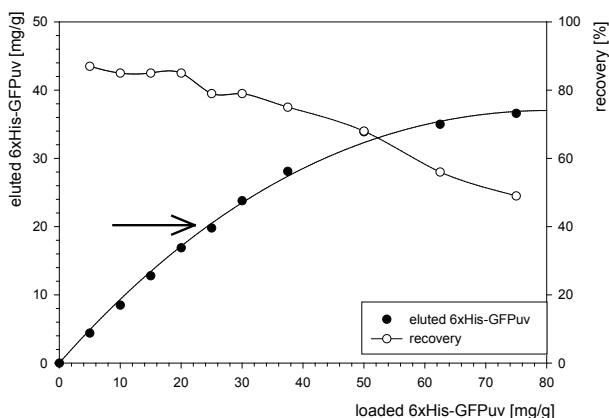
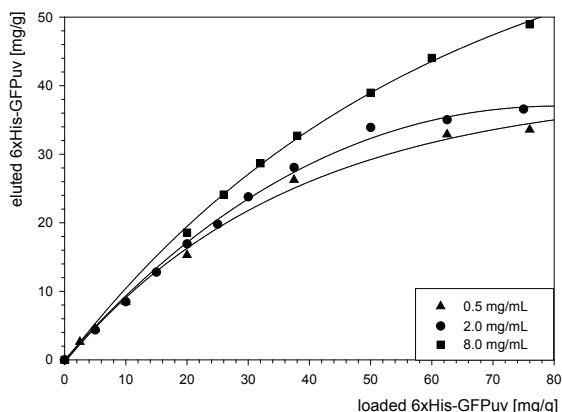

Figure 2: Binding behaviour of 6xHis-GFPuv to Protino® Ni-IDA Resin
Figure 3: Binding behaviour of 6 x His-GFPuv to Protino® Ni-IDA at different concentrations of the polyhistidine-tagged protein in the sample
The binding behaviour of any polyhistidine-tagged protein to Protino® Ni-IDA can be examined by calculating the amount of protein that is eluted as a function of the amount of protein that has been loaded (see Figure 2). Please note that the resulting graph will vary in dependence on characteristics and concentration of the individual His-tag protein. The binding curve can be divided in three stages:
1. Stage of maximum recovery. At this stage the loaded protein is bound to the resin nearly quantitatively and can be eluted nearly quantitatively, too (the binding curve is almost linear, see Figure 2, • eluted His-GFPuv).
Figure 2 shows a plot of the amount of eluted 6xHis-GFPuv against the amount of loaded 6xHis-GFPuv. The binding curve can be divided in three stages:
Under the above mentioned conditions the binding capacity of Protino® Ni-IDA for 6xHis-GFPuv is approximately 20 mg protein per g of resin (see arrow, Figure 2). At this point the protein recovery is > 80%. Consequently the following amounts of 6xHis-GFPuv have to be loaded: For optimal recovery: load ~ 20 mg protein per 1 g of Protino® Ni-IDA Resin, for maximum yield: load ~ 75 mg protein per 1 g of Protino® Ni-IDA Resin.
Recovery rates and yield can be increased by using samples containing higher concentrated polyhistidine-tagged protein (6xHis-GFPuv). Figure 3 shows that the yield of purified polyhistidine-tagged protein is not only depending on the total amount of target protein loaded on the column (also see Figure 2) but also on its concentration in the lysate. Consequently the concentration of target protein in the sample should be as high as possible.